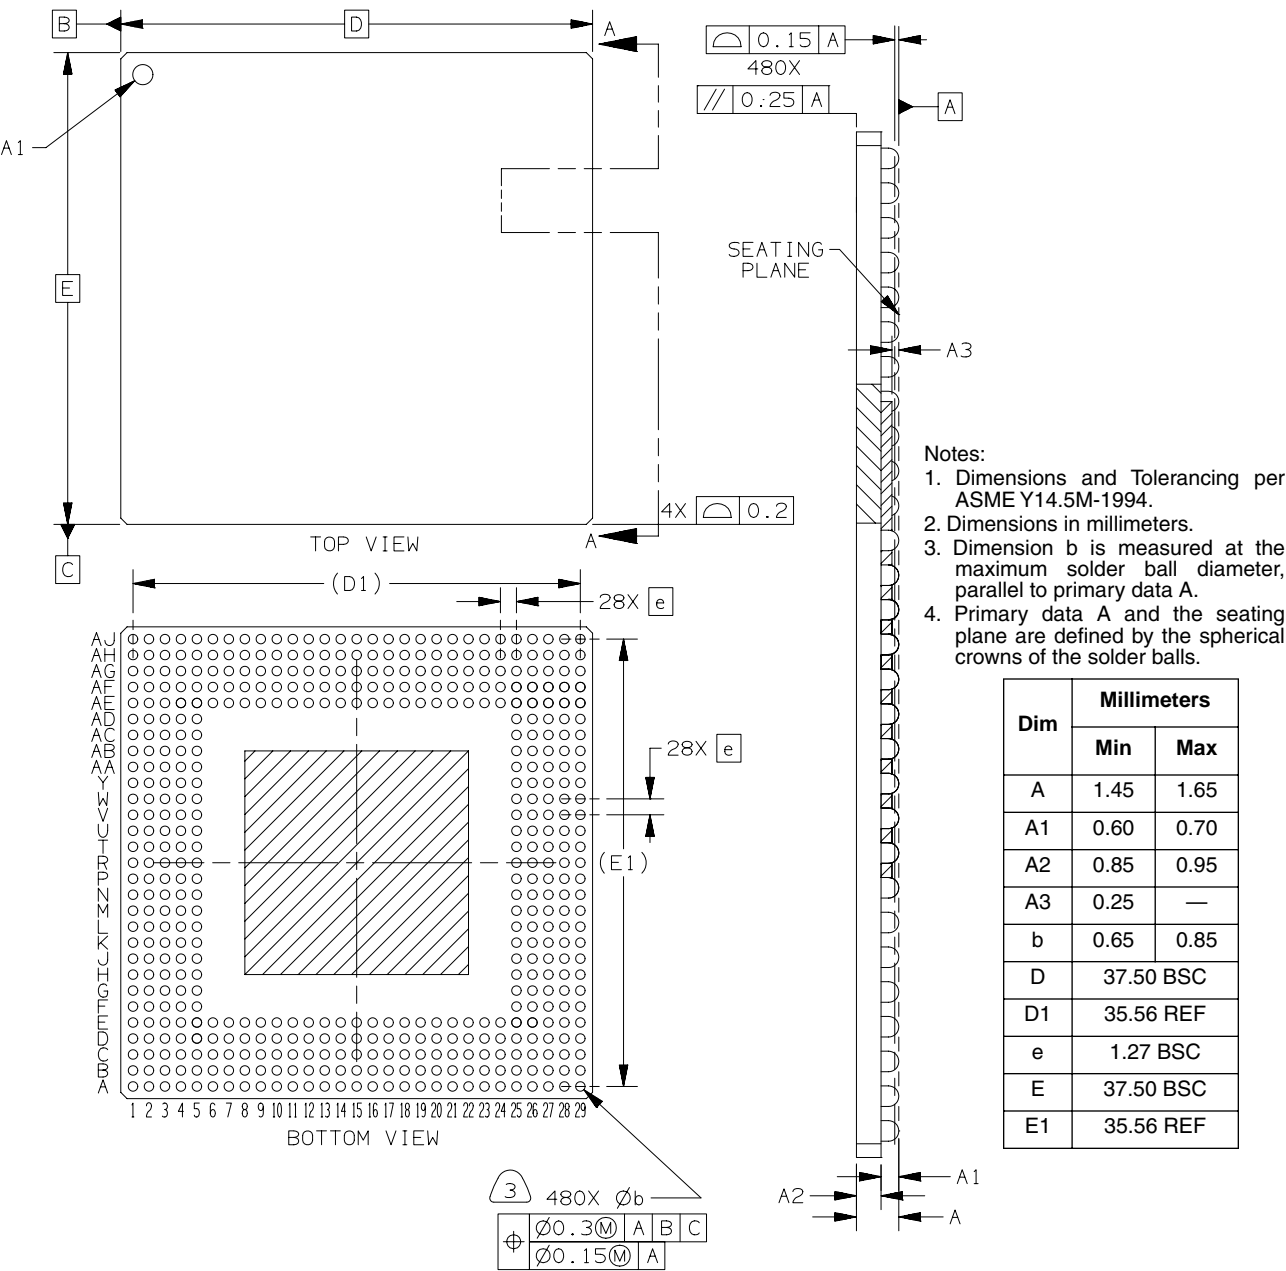

Figure 17. Mechanical Dimensions and Bottom Surface Nomenclature—480 TBGA
Figure 17 provides the mechanical dimensions and bottom surface nomenclature of the 480 TBGA (ZU) package. Refer to Table 2.